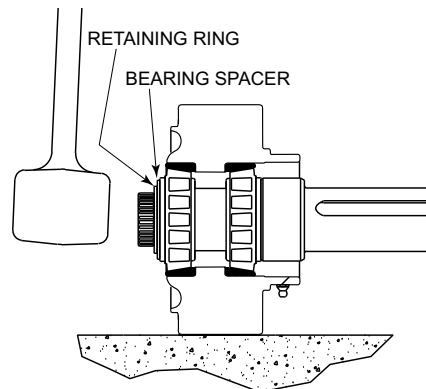

Figure 6.3.6.5 Final Assembly of Output Shaft Housing
14. Hold housing on its side and with a blunt instrument, rap on the inboard side of shaft. Reference Figure 6.3.6.5 (next column).